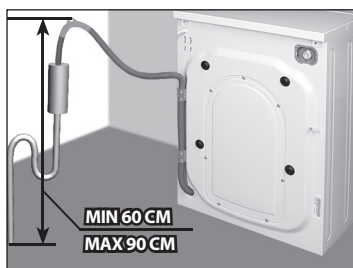

Figure 9
3.4.4 In accordance with figure 9 the drain hose must be located at the height of at least 60 and not exceeding 90 cm from the floor level. If this rule is not observed, the machine will not work.